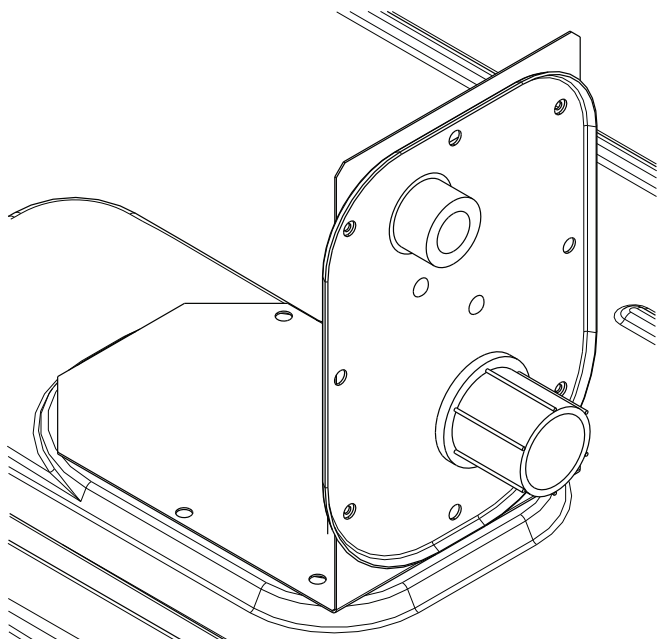

Fig. 26 — Thru-the-Base Fitting Assembly (Shown in Shipping Position)
3. Place the gasket over the embossed area in the basepan, aligning the holes in the gasket to the holes in the basepan. See Fig. 26.
This service connection kit consists of a 1/2-in. electrical bulkhead connector and a 3/4-in. electrical bulkhead connector, connected to an “L” bracket covering the embossed (raised) section of the unit basepan in the condenser section (see Fig. 26 for shipping position).